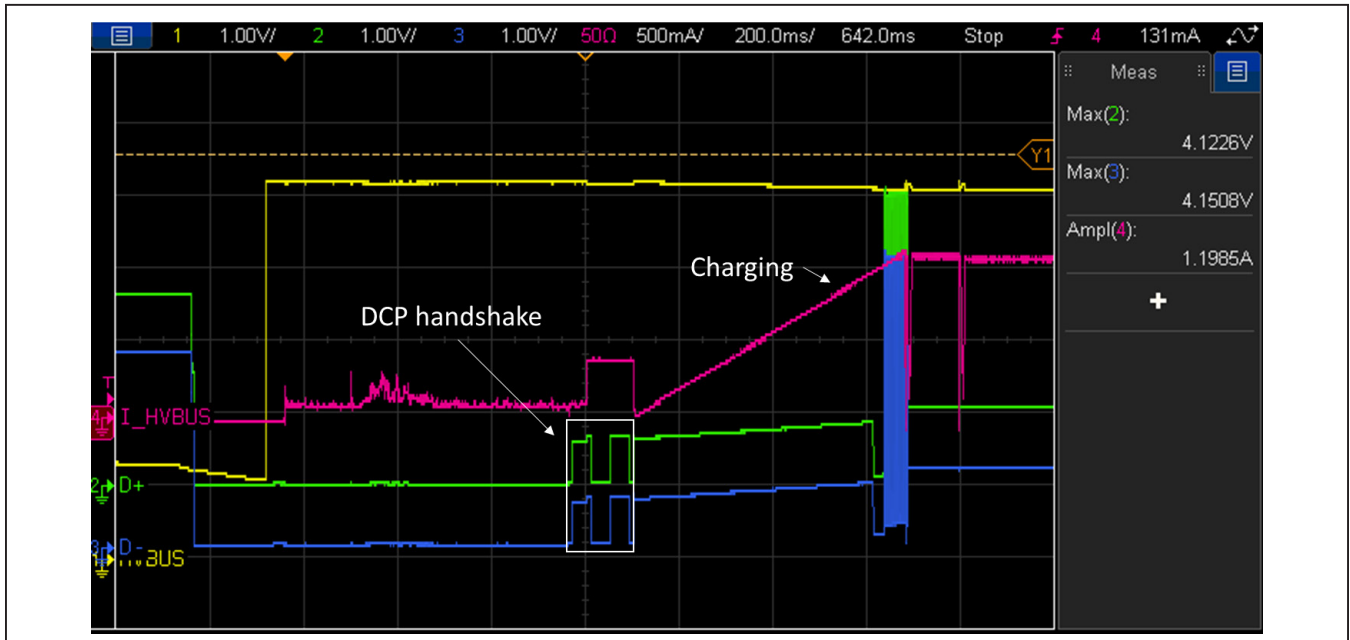
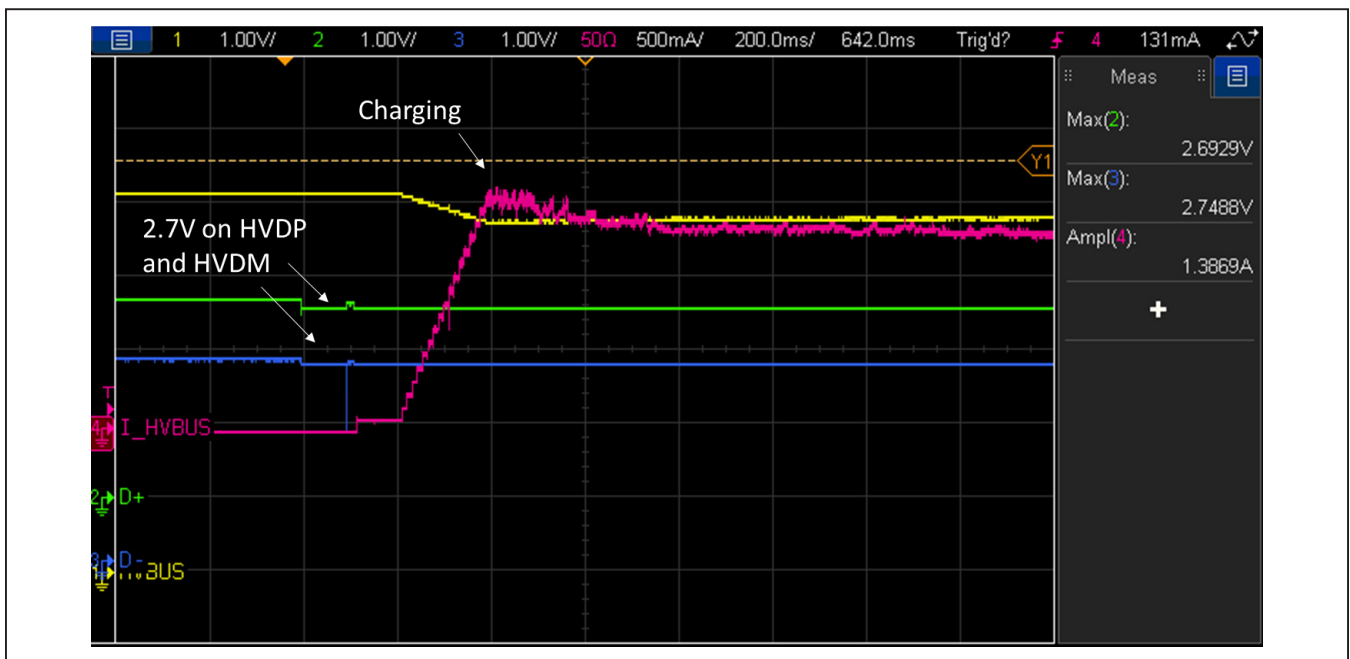

Figure 9. Auto-DCP Response with an Android Phone
Figure 10. Auto-DCP Response with an Apple Phone
- 3) For an Android phone, note the DCP handshake on the HVDP and HVDM pins, which indicates to the phone that it can pull up to 1.5A of load (see Figure 9). For an Apple phone, the HVDP and HVDM stays at 2.7V and indicates to the phone it can pull up to 2.4A of current (see Figure 10).